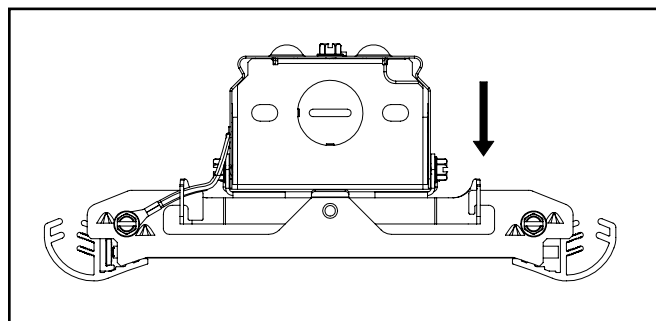

Figure 3.4
- E. Place the waveguide assembly thinner tab end inside the groove in channel hinge bracket. (Figure 3.4)